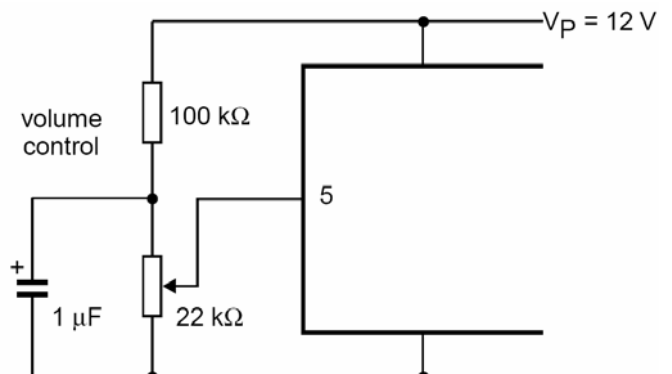

Fig.14 Application with potentiometer as volume control
5. The DC volume control can be configured in several ways. Two possible circuits are shown in Figs 14 and 15. The circuits at the volume control pin will influence the switch-on and switch-off behaviour and the maximum voltage gain.